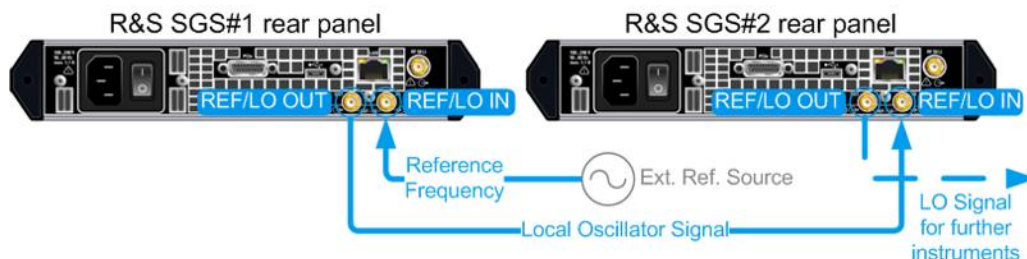

Figure 9-3: Example of a setup: LO coupling
1. Connect the instruments as a daisy chain (see Figure 9-3), i.e. connect the [REF/LO IN] connector of each further instrument to the [REF/LO OUT] connector of the previous one.
Refer to Figure 9-3 for an example of how to connect two instruments for achieving phase coherence. The configuration can be extended to further instruments.